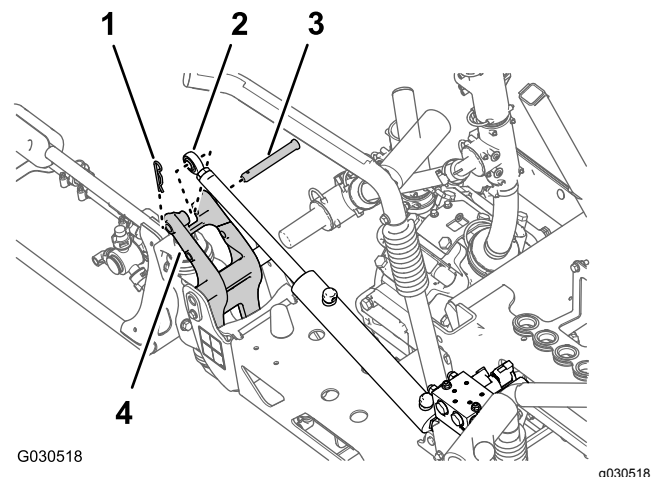

Figure 72
- Remove the hairpin and clevis pin that secure the rod end of the lift cylinder to the pivot bracket (Figure 72).